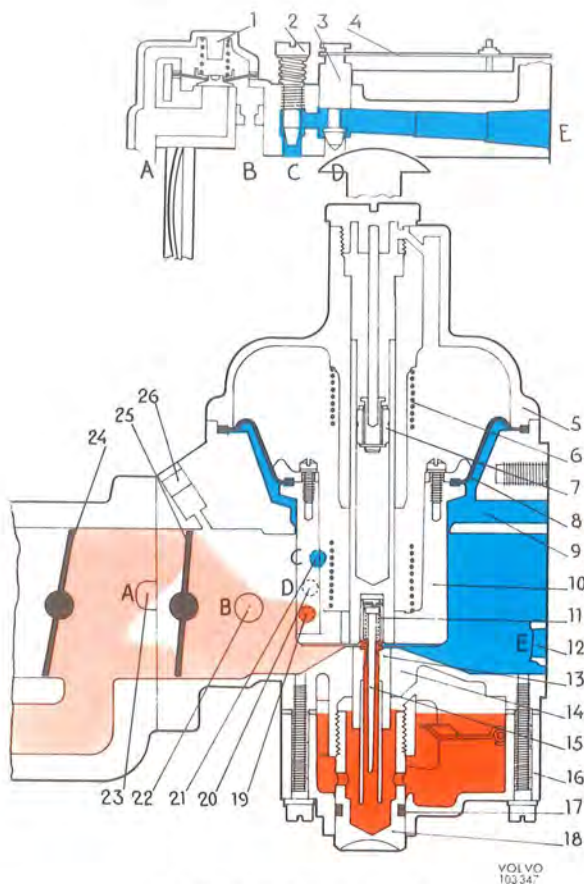
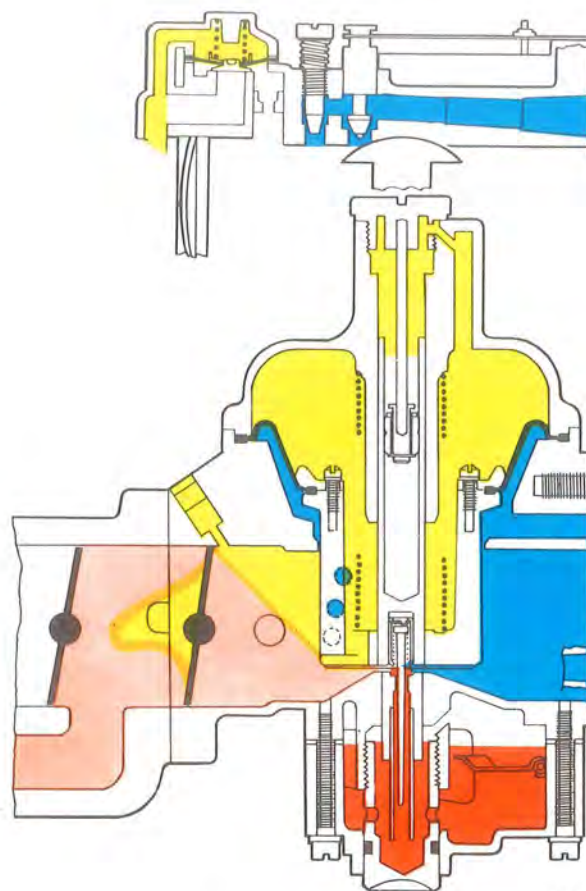

Fig. 2-55. Cold starting, principle
Fig. 2-56. Idling, warm engine
When the engine is idling, the vacuum in the carburettor suction chamber is low and the column between the vacuum plunger and the bridge will be small (see Fig. 2-56). At this stage, the thicker section of the metering needle is in the jet and thus only a small quantity of fuel, corresponding to idling requirements, is sucked into the engine. The temperature compensator (Fig. 2-55) is regulated by a bi-metal spring (4) which influences a valve (3). When the engine is warm and the temperature in the carburettor rises, the valve opens and air is obtained in the carburettor venturi to compensate for the increase in the fuel flow, which is obtained due to the alteration in the fuel's viscosity, see Fig. 2-56. Fine adjustment of the engine idling speed can be carried out with the idle trimming screw (2, Fig. 2-55).
nels in the plunger to the suction chamber which is sealed from the main body of the carburettor by the diaphragm. The pressure difference between the underside of the air valve, where there is pressure in the carburettor inlet port, and the upper side of the valve, where there is vacuum, causes the valve to lift from the bridge. This also lifts the tapered metering needle (15, Fig. 2-55), which is attached to the plunger, out of the jet. The effective choke area and thus also the fuel flow increase. See Fig. 2-57.
When the air valve (10, Fig. 2-55) lifts, the damper piston (7) is forced against its seat and oil is prevented from flowing past from the upper side the lower side of the damper plunger, this retarding the movement of the valve (10). This temporarily results in a more powerful vacuum above the jet so that the fuel-air mixture becomes for the moment richer.